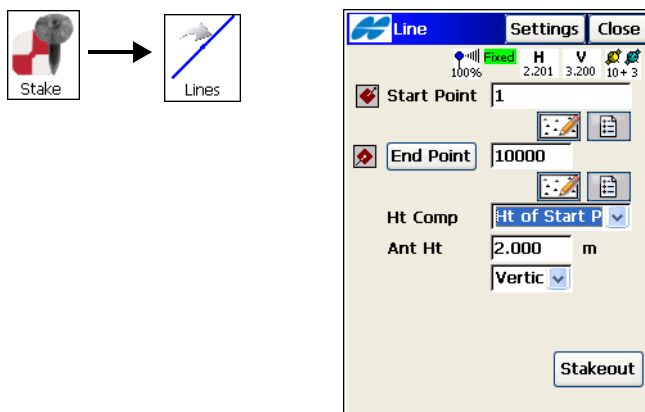

Figure 9-15. Stakeout Line
1. To stake out points along a line, tap **Stake ▶ Lines** (Figure 9-15 on page 9-12).
2. On the Stakeout **Line** screen (Figure 9-15 on page 9-12), specify the reference line by choosing the start point and either the end point or the azimuth. Currently, the stakeout points have the same height as the starting point. Also, specify the antenna
parameters (GPS+ mode), or the height of the rod (TS mode). Tap the **Stakeout** button (Figure 9-15).